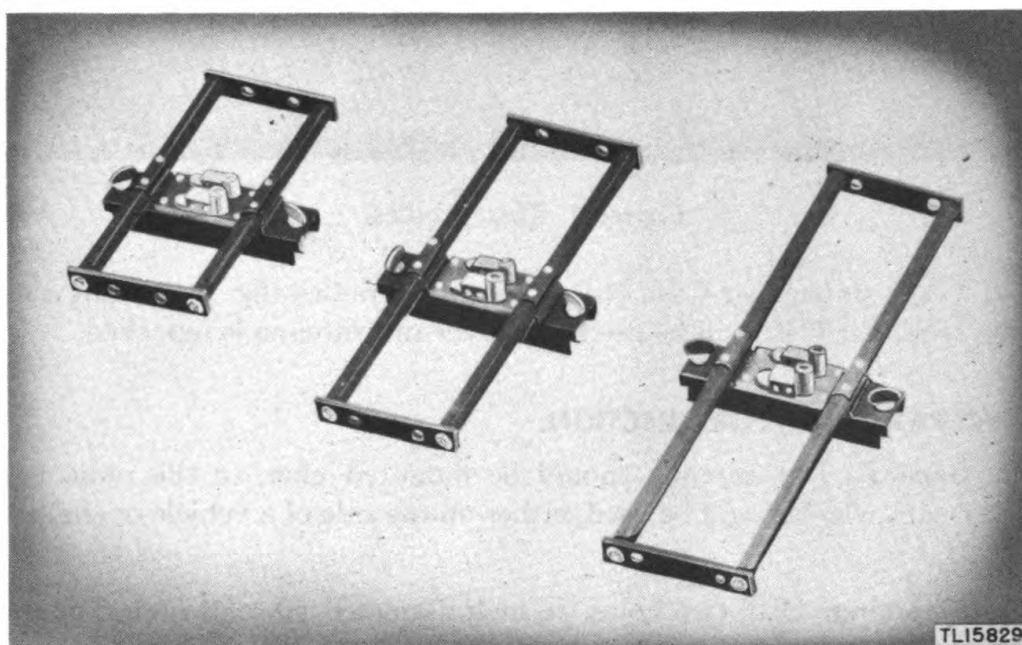

Figure 4. Dipole mounting assemblies.
(1) Raise and support the mast from the ground at a distance sufficient to provide for assembly and protection of the dipole mountings and antenna elements.
(2) Attach the six dipole mounting assemblies (fig. 4) to the top mast section so that the cable plug holes are toward the base of the mast. Attach the dipole mounting assemblies marked TIER-1 to the top position, and TIER-2 and TIER-3 to the middle and bottom positions, respectively. Wing screws which screw into threaded inserts brazed to the mast are provided to hold the assemblies in position.